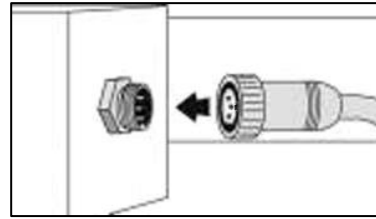

Figure 84
4. Disconnect the coil cord plug connector from the tilt motor receptacle (Figure 84).